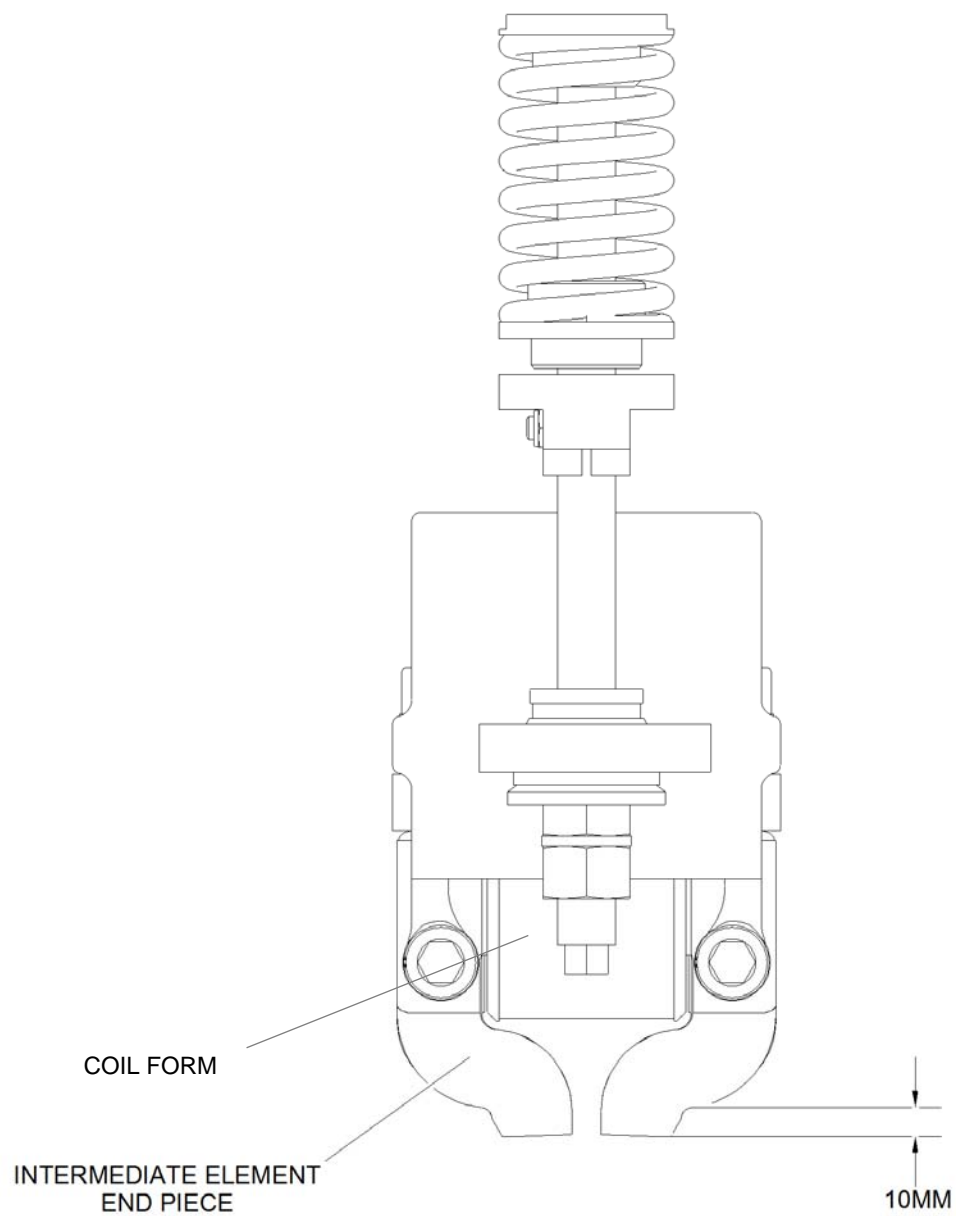

Figure 5-4: Intermediate Element/End Piece Wear Criteria
1. Inspect track brake coil form, see Figure 5-4 and magnet for wear, cracks or damage. If excessive wear, cracking or damage is found replace components per the Section 1000, Track Brakes of the Heavy Repair Maintenance Manual (HRM). Remove coil form for inspection per the Heavy Repair Maintenance Manual.
1. Inspect track brake intermediate element, end piece rail shoes for wear. See Figure 5-4.